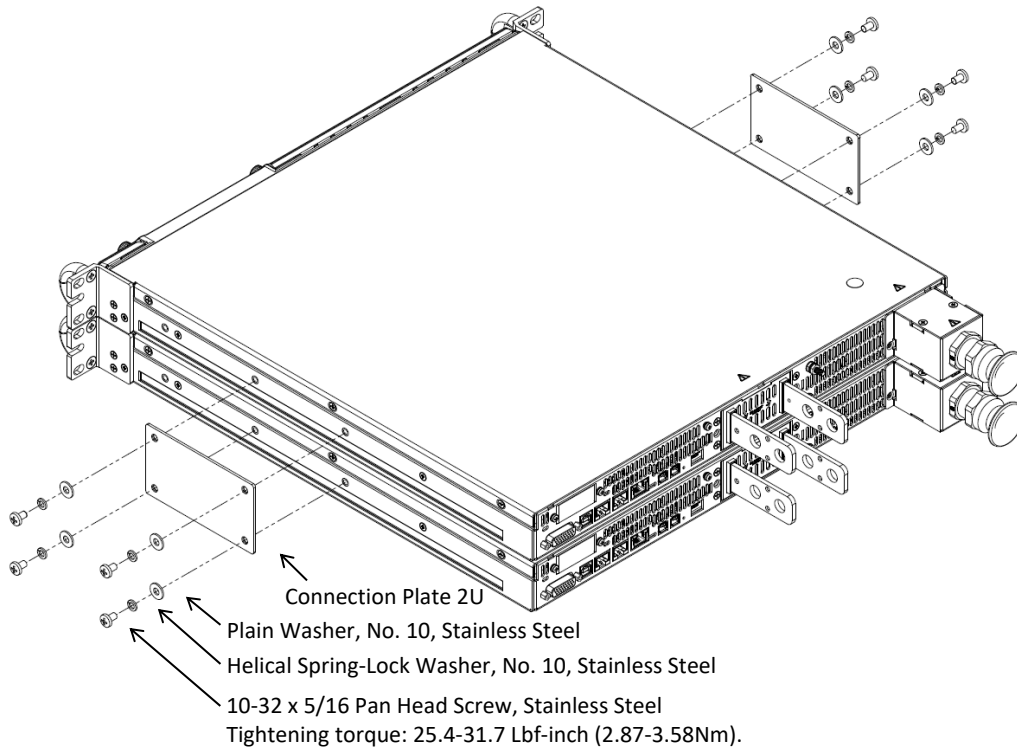

Figure 1: Two 10V Units Connection Plates 2U Assembly
1. Attach connection plates, one on each side of the power supplies, using eight pan head screws, eight helical spring-lock washers and eight plain washers as illustrated in Figure 1.